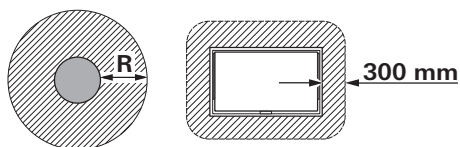

Fig.9
- The wall cowl is to be fitted in such a way that no tank nozzles or tank ventilation apertures are located within 500 mm (Fig. 9 - R) of it. In addition, no air discharge apertures for the living area or window openings may be located with 300 mm of it.